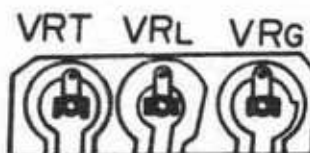

Fig. 2-5
3. Adjust VRT for the most accurate shutter speed. (Fig. 2-5)